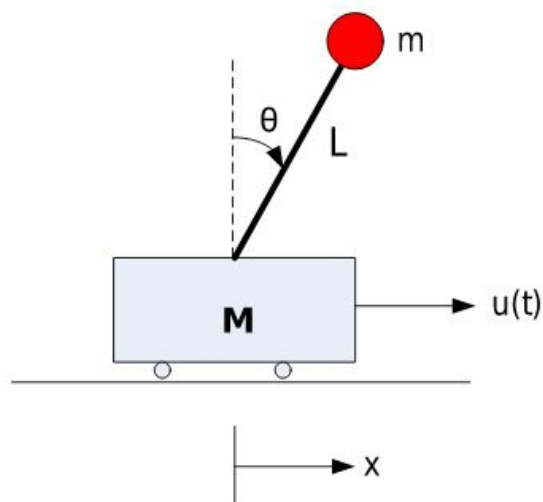

Figure 3: Inverted pendulum on a moving cart
3. Many will be familiar with the objective of balancing a pen (or a rod) on the tip of one's finger. It is a difficult control task and it illustrates many of the difficulties associated with real world control problems. This can be modelled as a typical inverted pendulum on a moving cart as shown in Figure 3. Obtain the mathematical model for the given system and linearize it around the equilibrium point.